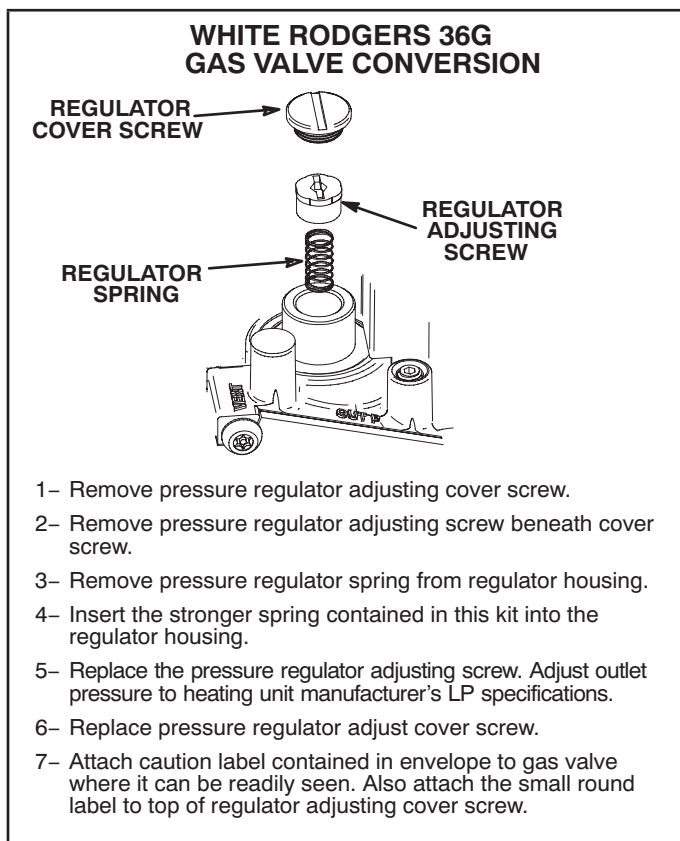

Figure 2
- 8 - Install gas valve conversion kit. Refer to manufacturer's instruction packed in valve conversion kit. See figure 2.
- 2 - After gas line pressure has been checked and adjusted, check manifold pressure at the pressure tap on the outlet side of the gas valve. The correct manifold pressure for natural gas is given in table 2 or 3. Refer to figure 2 for gas manifold pressure adjustment screw location.